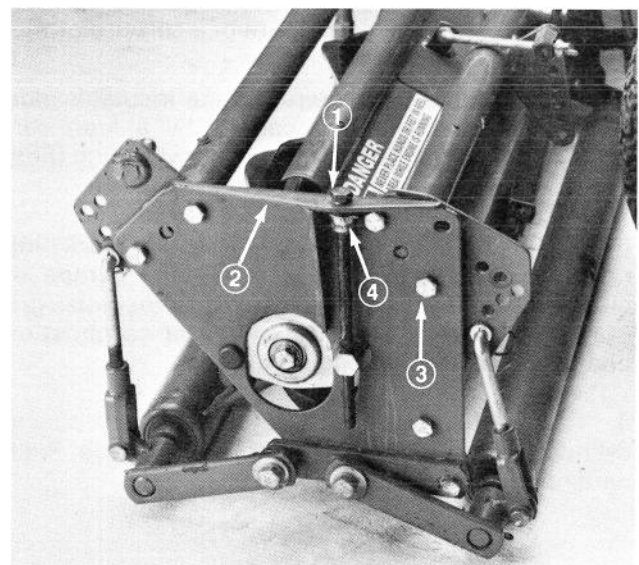

Figure 26
1. To adjust reel toward bedknife for proper cutting, turn hex head bolt on each end of cutting unit counterclockwise no more than 1/6 turn (one flat of bolt head) (Fig. 26).
3. Turn reel over by hand (using play between drive ball and drive shaft) to check for proper adjustment. Adjust locknut securing adjusting block on inside of side plate to eliminate any clearances (Fig. 26).